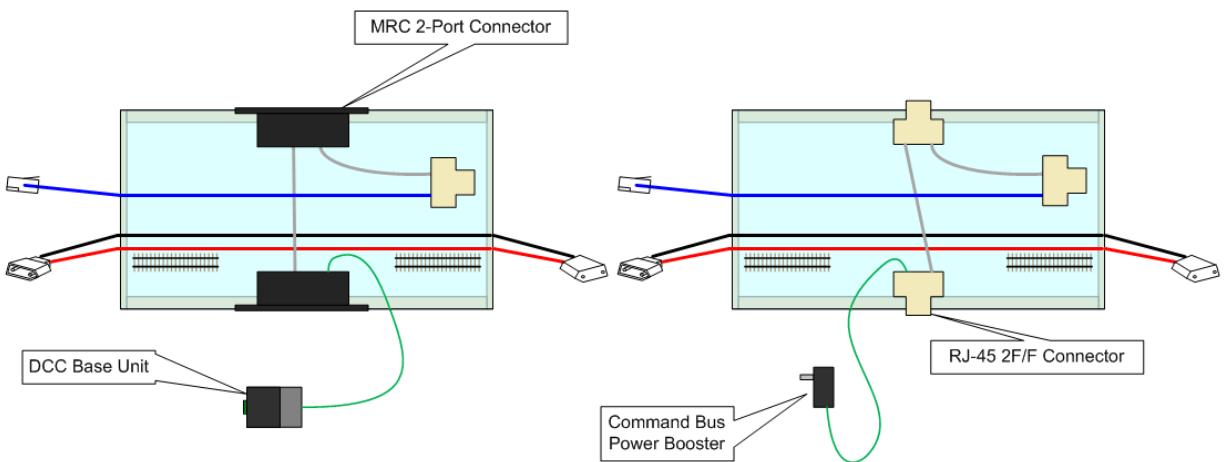

Figure 4
- Each module will have a pass-through command bus cable and port to establish the layout command bus. If the module requires a command port (see below) then a 2F/F connector will be used as shown in Figure 4.
- Command bus ports will be RJ45, 2-to-1 (2F/F) connectors (or similar) with the dual port side (2F) under the module and at least a single port protruding through the side fascia. As shown in Figure 4, the fascia side ports daisy chain back to the 2F/F module-to-module connector.
- Modules that have only a straight-through route are not required to have a command bus port on the fascia if the module length is under 6 feet. However, they are required to have the command bus pass-through terminating in an F/F connector (in lieu of the 2F/F shown in Figure 4).